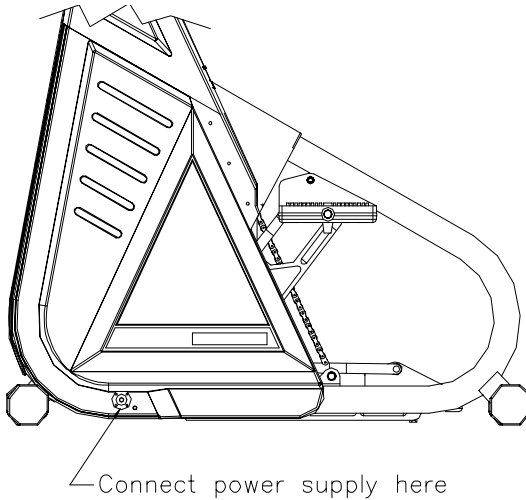

**Figure 3: Level Adjusting End Caps**
2. Make sure the machine is level before you use it for the first time. The four rubber end caps (see Figure 3) are designed to compensate for uneven floors. Each face of the caps is a different thickness. Twist the caps to stabilize the machine.